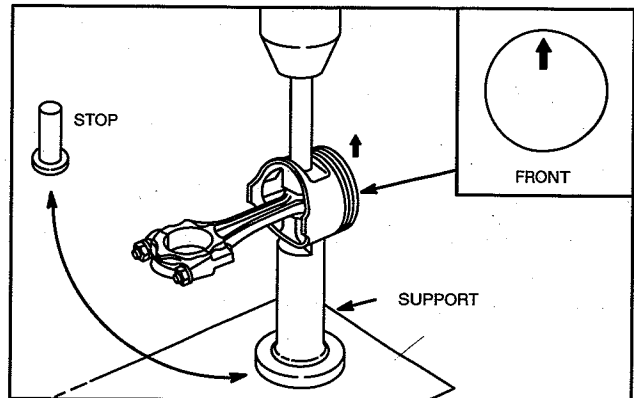

Fig. 2 - Disassembling Piston/Connecting Rod
2. Disassemble piston from connecting rod using piston pin fixture, Tool #19419, Fig. 2.